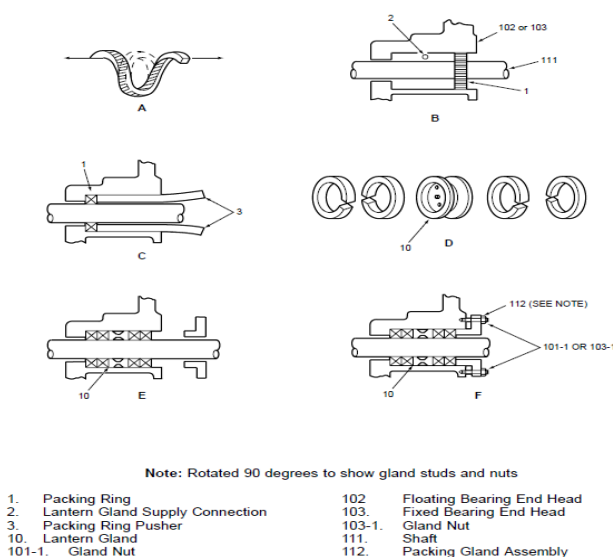

Figure 7.3 Packing Stuffing Boxes
a-12. Create two hard rubber strips to fit between the outer diameter of the shaft (111) and the inner diameter of the stuffing box, as depicted in Figure 7-3 Part C. These strips will serve as packing ring pushers.
a-14. Open the packing ring into a spiral by pulling the ends axially apart, as illustrated in Figure 7-3 Part A.
a-15. Guide each packing ring onto the shaft and into the stuffing box area, following the steps outlined in Figure 7-3 Part B.
a-16 Using the pushers created in step a-12, firmly insert the initial packing ring into the stuffing box, ensuring it is properly seated against the end of the stuffing box, as depicted in Figure 7-3 Part C. Arrange the butted ends of each succeeding ring so that they are staggered by 180 degrees (refer to Figure 7-3 Part D). Verify that each packing ring is securely seated.
a-17. Place the lantern gland (10) back into its original position, as marked during removal (refer to Figure 7-3 Part E).
a-19. Affix the two halves of the packing gland assembly onto the shaft and secure them with two screws, lockwashers, and nuts. Slide the packing gland assembly onto the gland studs until it is flush against the last packing ring installed. Install and evenly tighten the gland nuts by hand, following Figure 7-3 Part F.